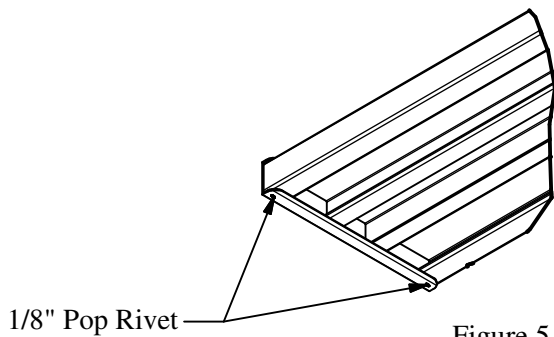

Figure 5
4. Install the end caps on each end of the seat planks, foot planks, and riser planks. Slide the end cap onto the plank with the holes on the underside of the plank. Using the holes in the end cap for a guide, drill a 1/8" hole and install the pop rivet to retain the end caps. See Figure 5.
10. Before tightening the seat plank bolts, align all the planks and make sure the planks are centered on the assembled frame. See Figure 5 for reference dimensions.